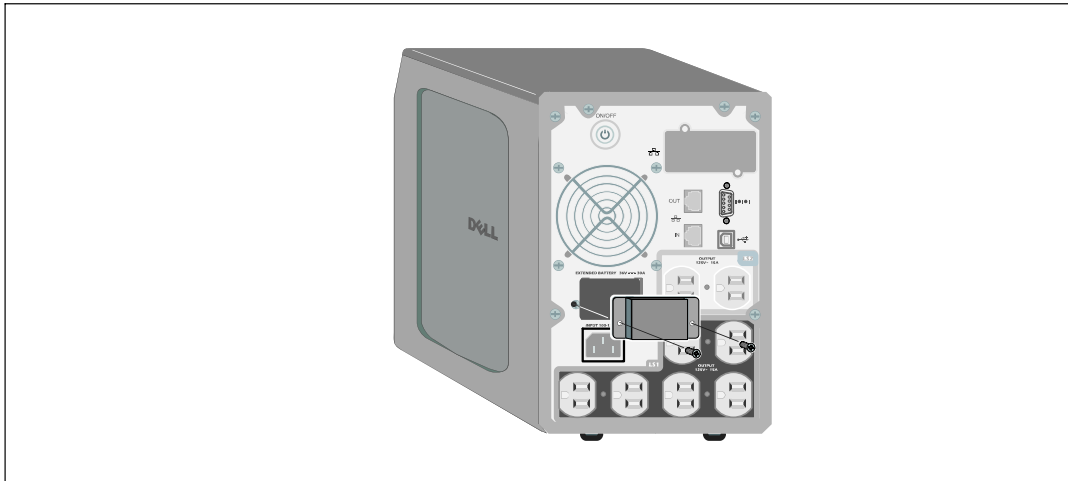

Figure 13. Removing the Battery Connector Cover
- 1 Remove the battery connector cover from the rear panel as shown in Figure 13. Retain the cover and screws.